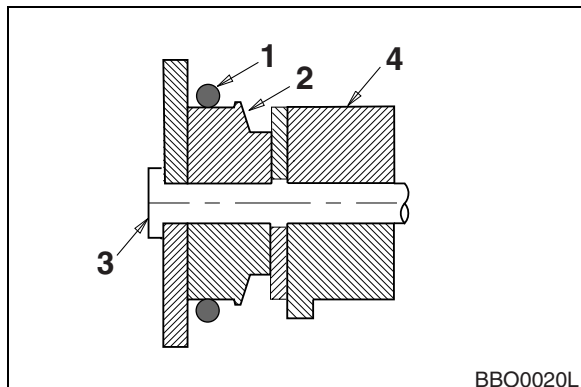

Figure 7
2. Roll the old O-ring (1, Figure 7) onto the boss (2) around the bucket pin (3). Remove the bucket pin and move the arm or bucket link (4) out of the way.
4. Realign the arm or link with the bucket pin hole and insert the bucket pin (3, Figure 7).